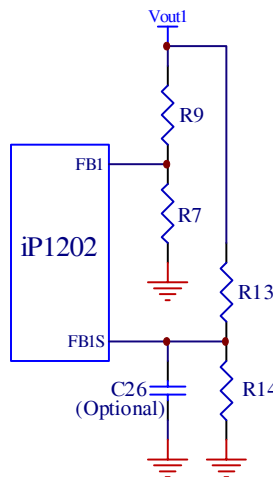

Fig. 17: Typical scheme for output voltage setting
Both outputs of the iP1202 will shut down if either one of the outputs experiences a voltage in the range of 115% of V_{OUT} . The overvoltage sense pins FB1s and FB2s are connected to the output through voltage dividers, R_{13} and R_{14} (Fig. 17), and the trip setpoints are programmed according to equation (1). Separate overvoltage sense pins $FB1_s$ and $FB2_s$ are provided to protect the power supply output if for some reason the main feedback loop is lost (for instance, loss of feedback resistors). An optional 100pF capacitor (C26) is used for delay and filtering purposes. If this redundancy is not required and if Type II control loop compensation scheme is utilized, FB1s and FB2s pins can be connected to FB1 and FB2 pins respectively.
When selecting output capacitors, it is important to consider the overshoot performance of the power supply. If the amount of capacitance is not adequate, then, when unloading the output, the magnitude of the overshoot due to stored inductor energy, and depending on the speed of the response of the control loop, can exceed the overvoltage trip threshold of the iP1202 and can cause undesirable shutdown of the output. The magnitude of the overshoot should be kept below 1.125V_{OUT}. To prevent the overshoot from tripping the output a delay can be added by installing capacitor C26 as shown in Fig.17.